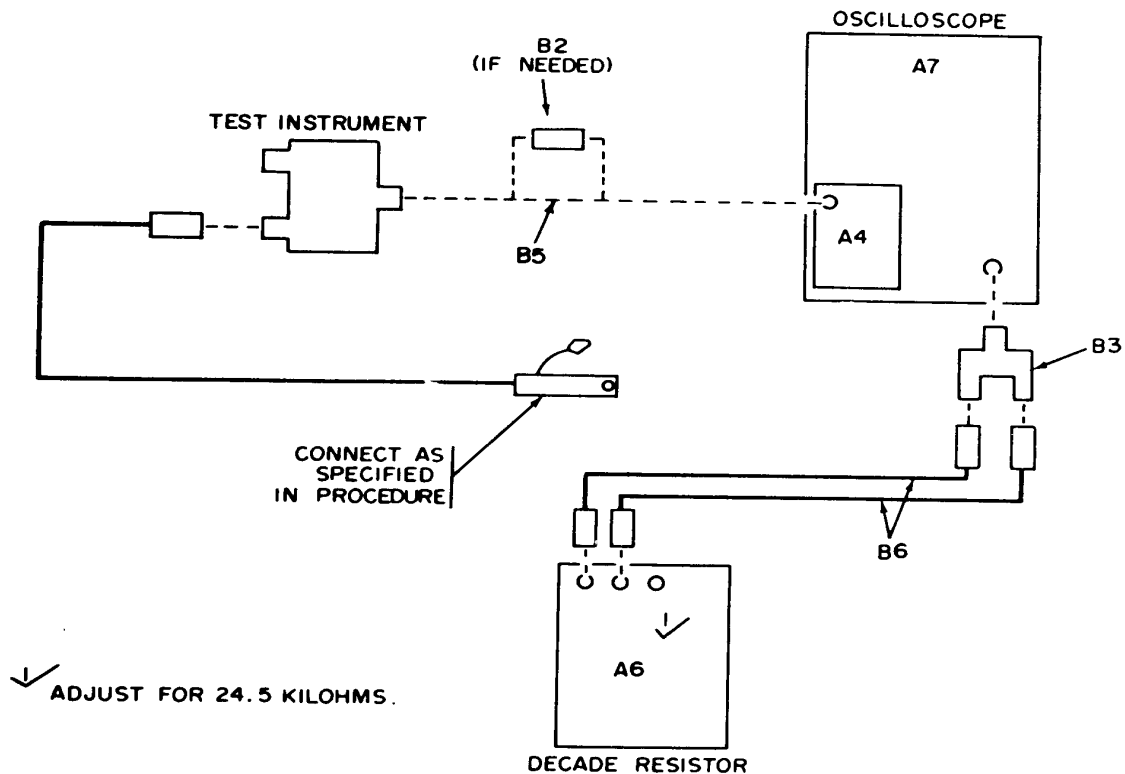

Figure 3. Input impedance and low frequency - equipment setup.
- (1) Connect equipment as shown in figure 3.
- (2) Turn oscilloscope (A7) **CALIBRATOR** switch to **100 VOLTS**.